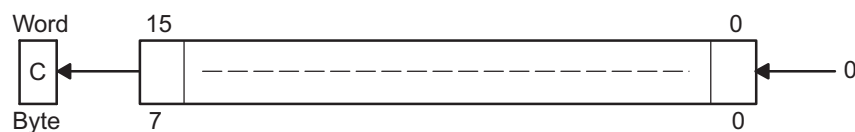

Figure 3-15. Destination Operand – Arithmetic Shift Left
Description	<p>The destination operand is shifted left one position as shown in Figure 3-15. The MSB is shifted into the carry bit (C) and the LSB is filled with 0. The RLA instruction acts as a signed multiplication by 2.</p> <p>An overflow occurs if $dst \geq 04000h$ and $dst < 0C000h$ before operation is performed: the result has changed sign.</p>